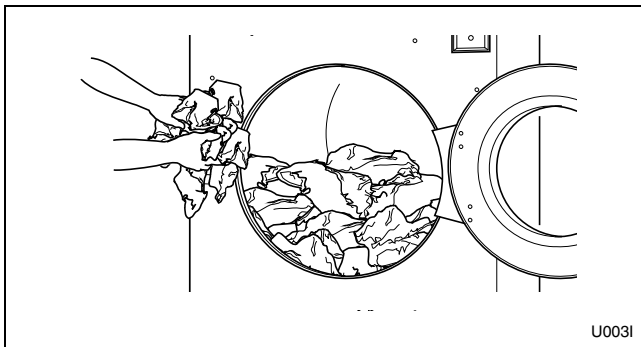

Figure 5
4. Load to capacity whenever possible. DO NOT OVERLOAD. Refer to *Figure 5*.